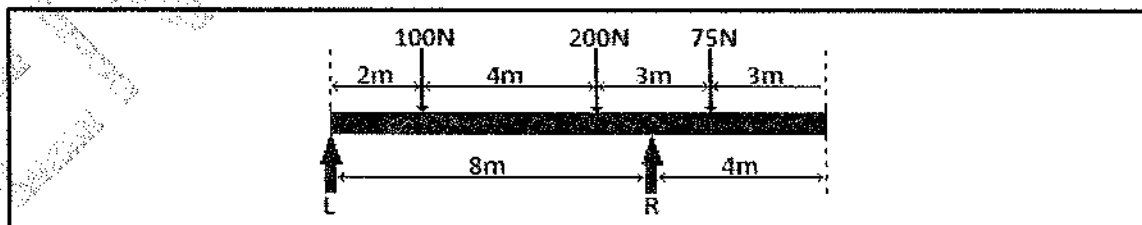

FIGURE 1
2.1 A horizontal beam as shown in FIGURE 1 rests on two supports L and R.